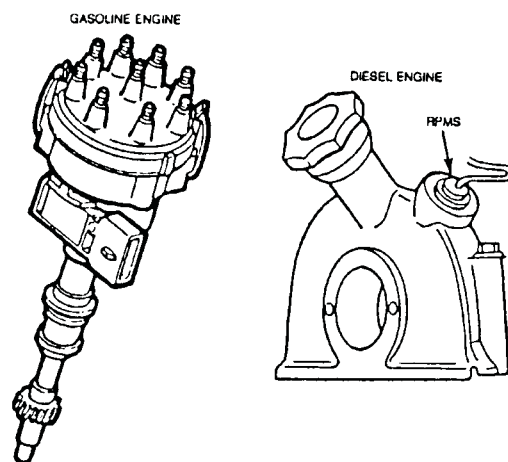

Figure 30
**Description:** On gasoline engines, the Profile Ignition Pickup signal is produced by a Hall-Effect device in the distributor. It tells the processor assembly the engine RPM and the crankshaft position (Figure 30).